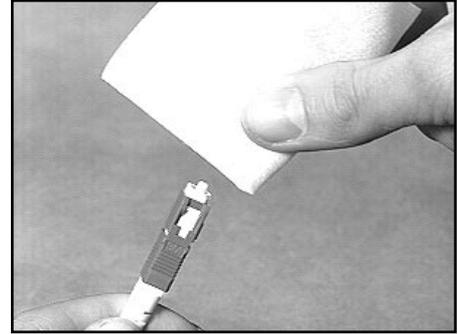

Fig. 12
A. Clean the ceramic ferrule of the connector with an isopropyl alcohol dampened lint-free cloth (Fig. 12) and immediately blow with compressed air.